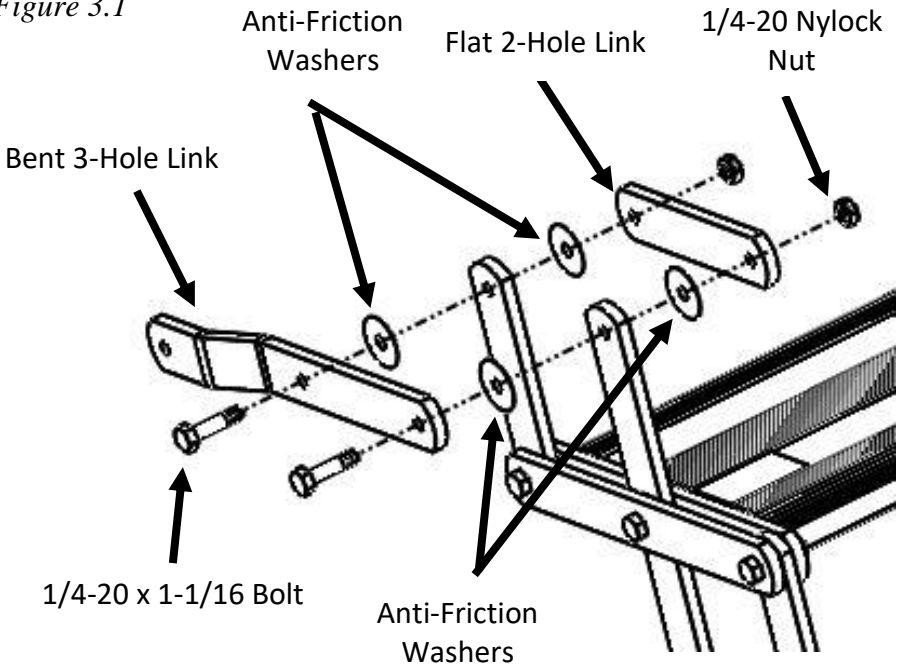

Figure 3.2
- Reinstall all hardware using the **Bent 3-Hole Link** as shown in *Figure 3.2*. The **Bent 3-Hole Link** should be on the outside with the bend towards the outside.